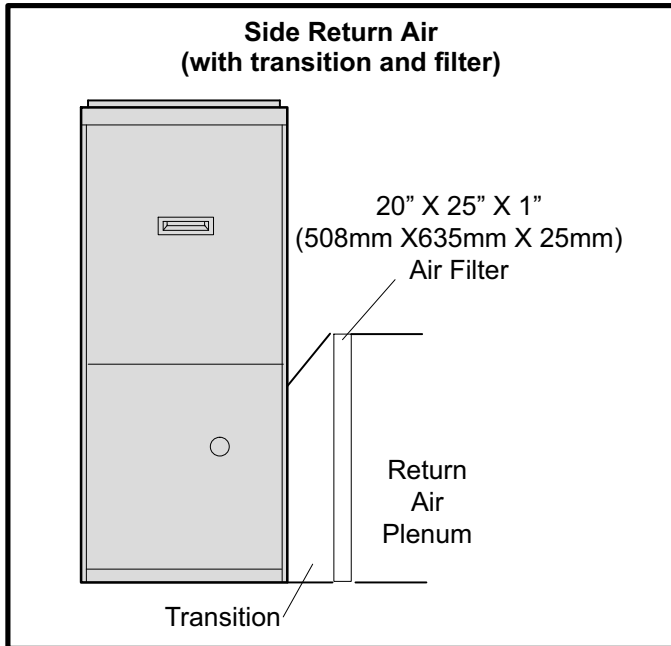

FIGURE 5
- 1 - Return air from single side with transition which will accommodate 20 x 25 x 1 in. (508 x 635 x 25 mm) air filter. (Required to maintain proper air velocity.) See figure 5.